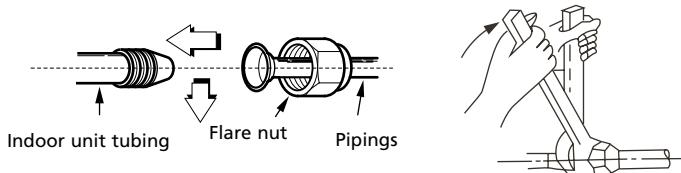

Figure 10
- Interior unit: Tighten the gland nut by hand to the piping on the interior unit and then tighten it with a spanner and torque wrench as shown in fig. 10.
- Exterior unit: Tighten the gland nut by hand to the connections on the valves on the exterior unit and then tighten it with a spanner and torque wrench as shown in fig. 10.